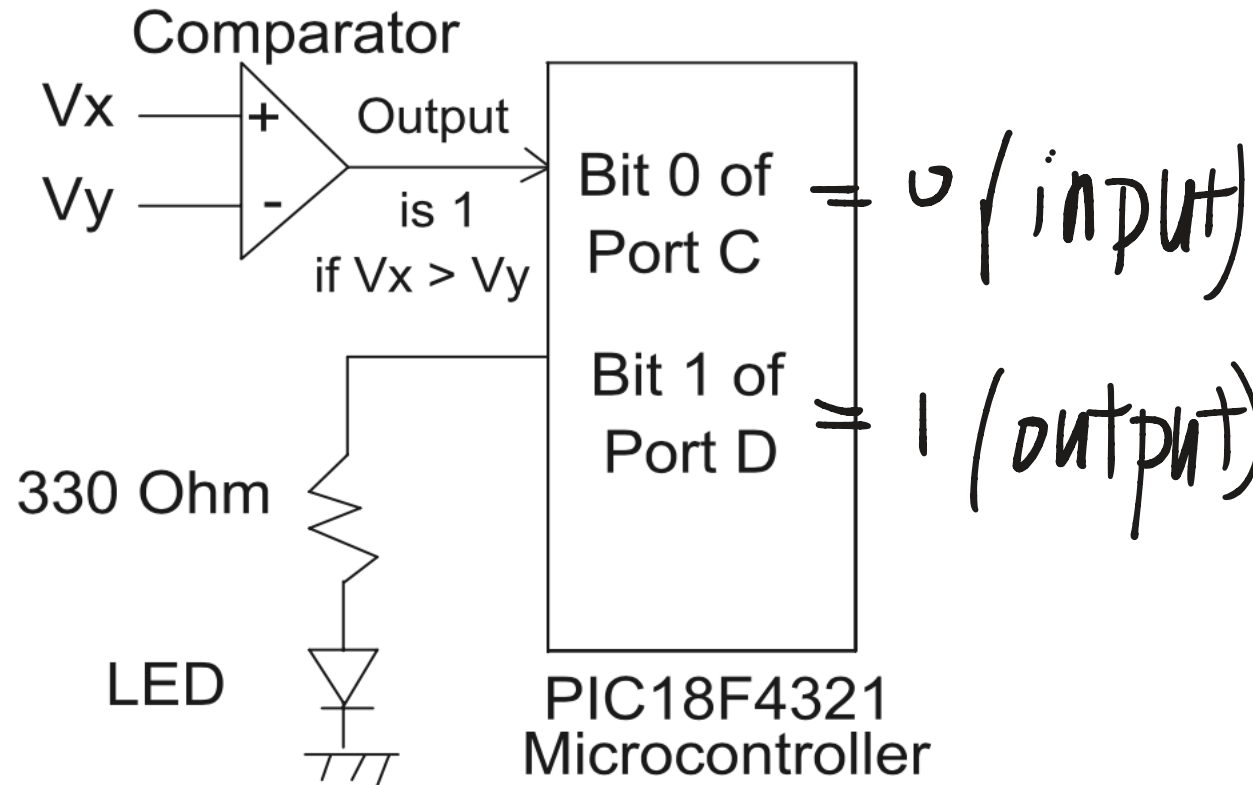
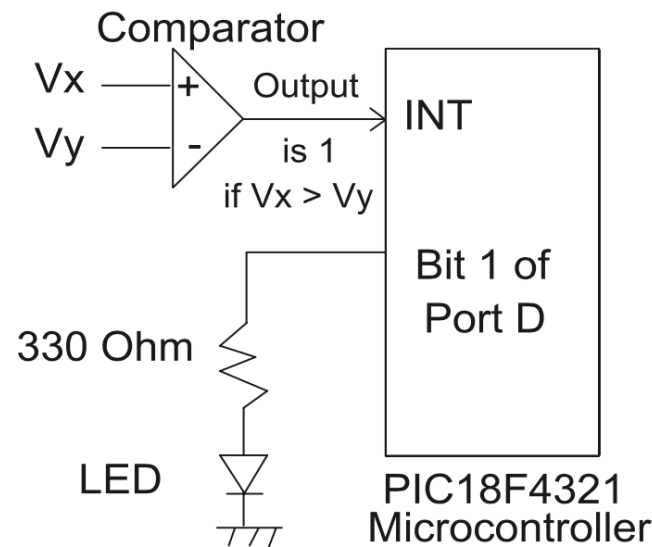

FIGURE 3.16 Example illustrating conditional or polled I/O
FIGURE 3.17 Example illustrating interrupt I/O
- Figure 3.17 provides a simple example for illustrating the concept of interrupt I/O. This is the same example used to illustrate polled I/O of Figure 3.16 except that the comparator output is connected to the microcontroller's interrupt (INT) pin instead of bit 0 of Port C.